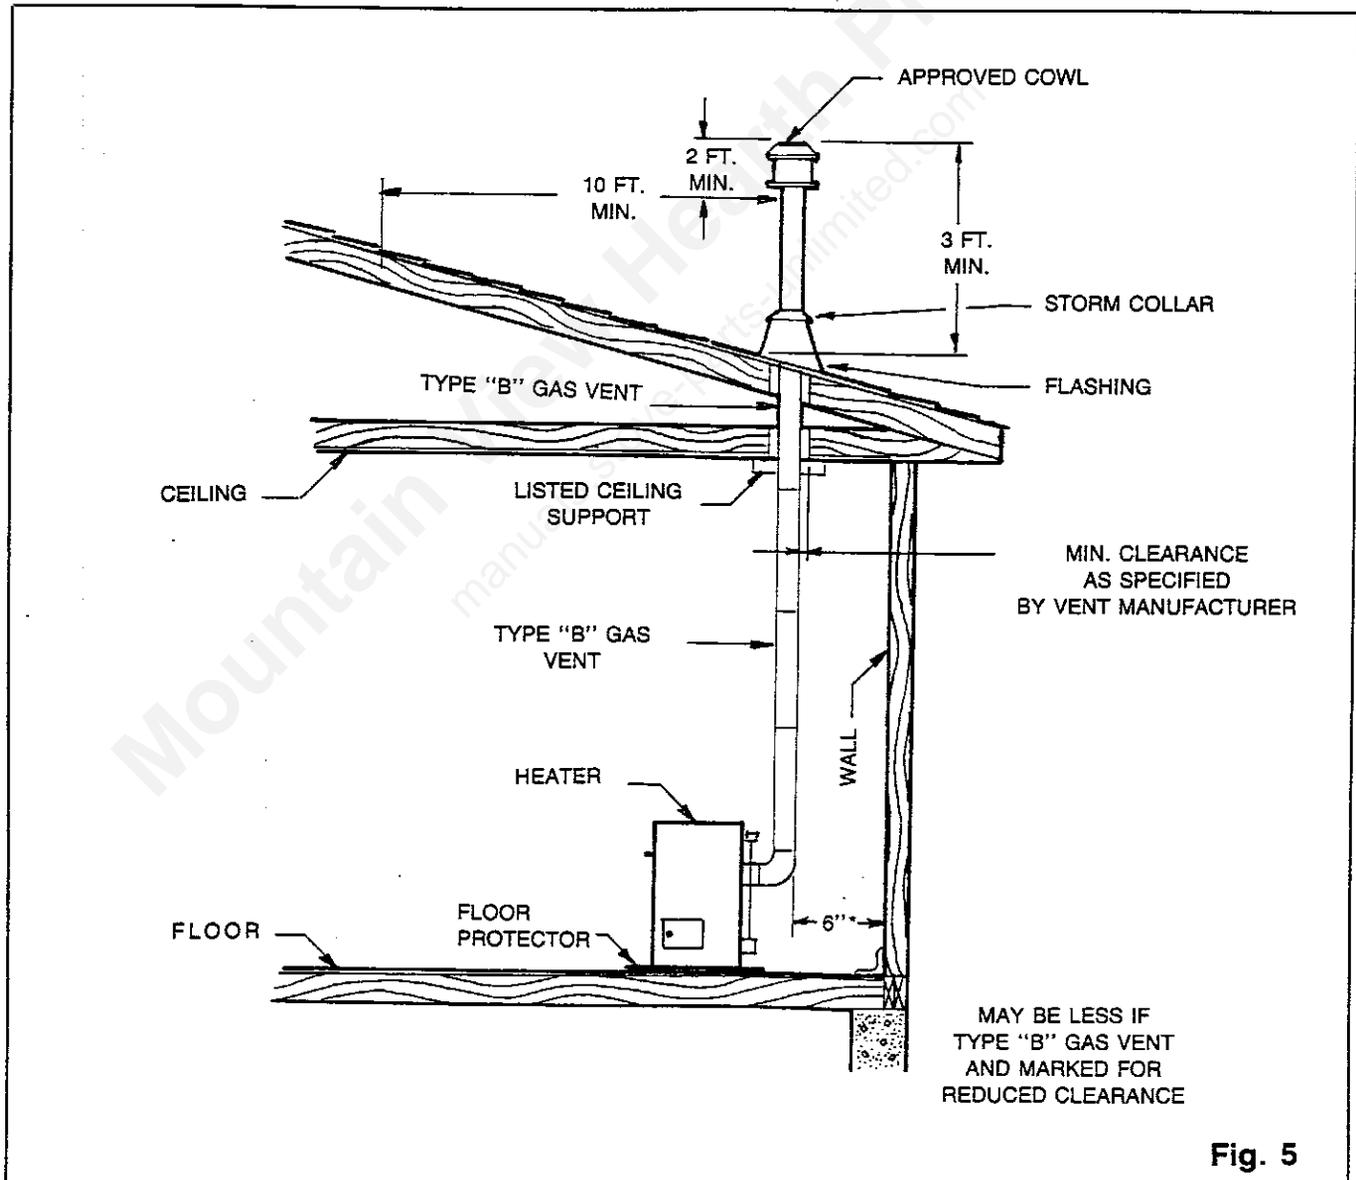

Fig. 5
4. Safe clearances are shown in this drawing. To prevent a home fire, make sure the heater is installed no closer than the distance shown in Fig. 5.